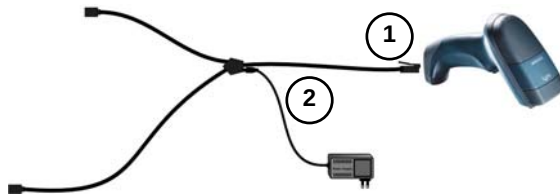

Figure 4 – Reader Wedge Connections
1. Make all the Lynx™ D reader connections as shown in Figure 4: